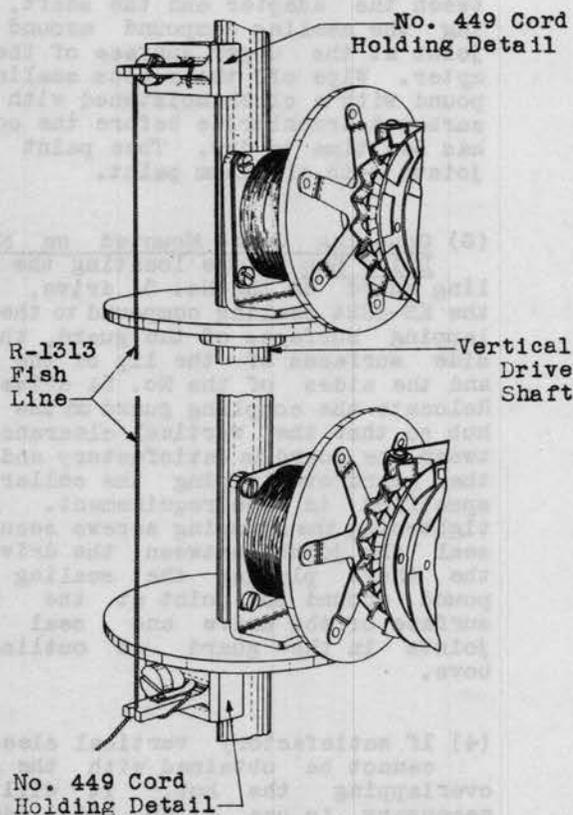

Fig. 6 - Method of Checking for Location of Bearings
(7) Attach the two No. 449A cord holding details to the shaft, one detail above or at the top bearing and one at the bottom end of the vertical drive shaft. Stretch the R-1313 fish line tightly between the two supports as shown in Fig. 6. The fish line will then be parallel to the shaft.